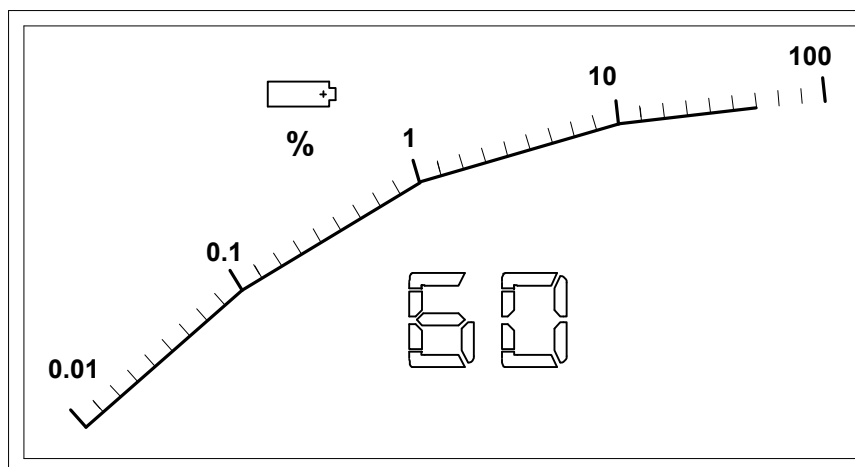

Figure 2.
- Checks the battery voltage (Figure 2) and displays the percentage of battery capacity remaining. If the remaining capacity of the batteries is less than 10%, the battery symbol appears on the display in the measurement mode